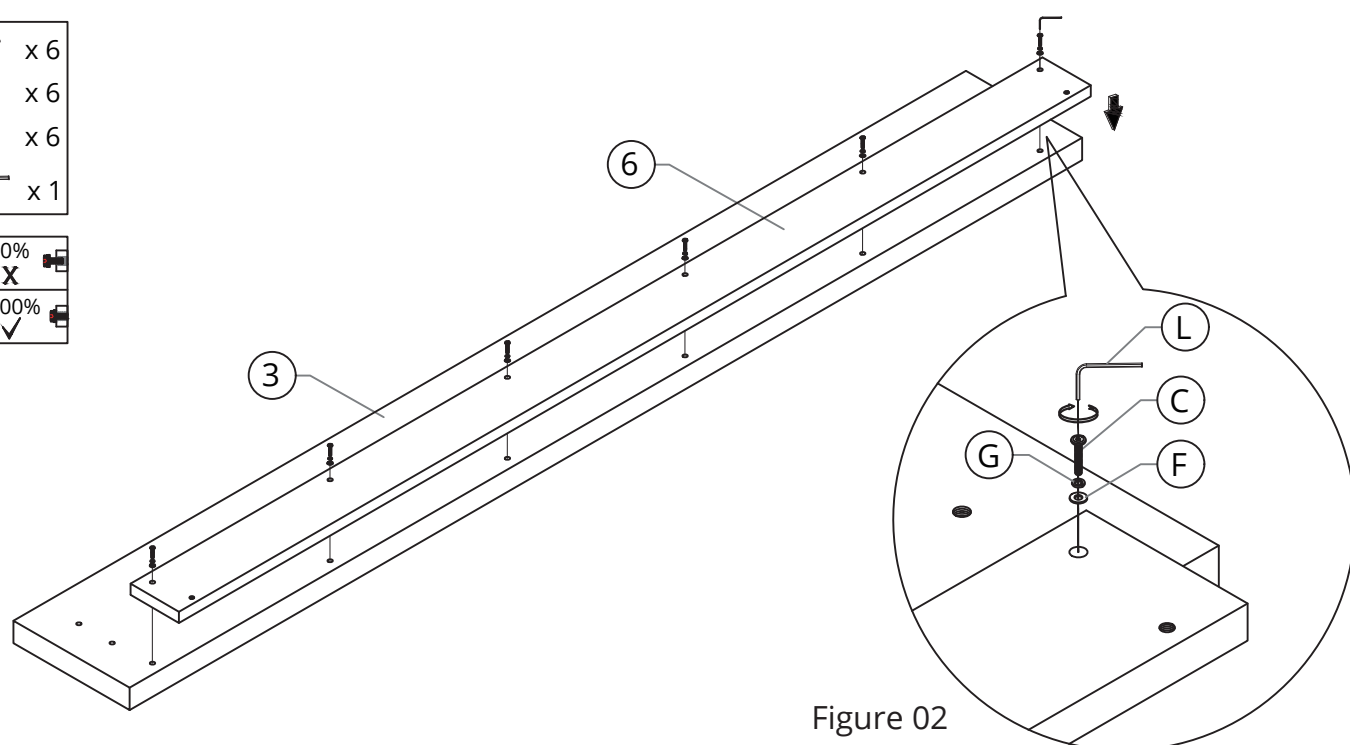

Figure 02
Step2: Install the bottom rail (6) to the footboard (3) by using the screws (C), spring lock washers (G), flat washers (F) and tighten it with allen wrench (L). See Figure 02.